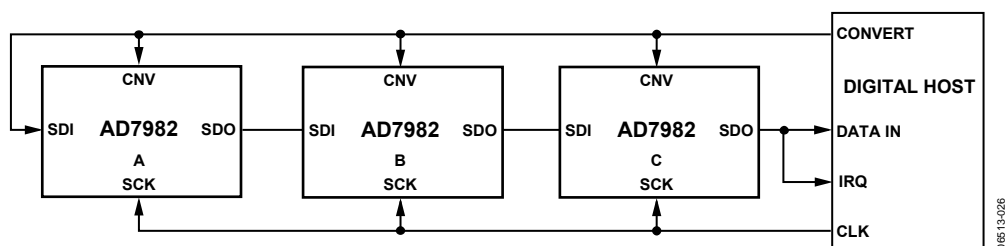
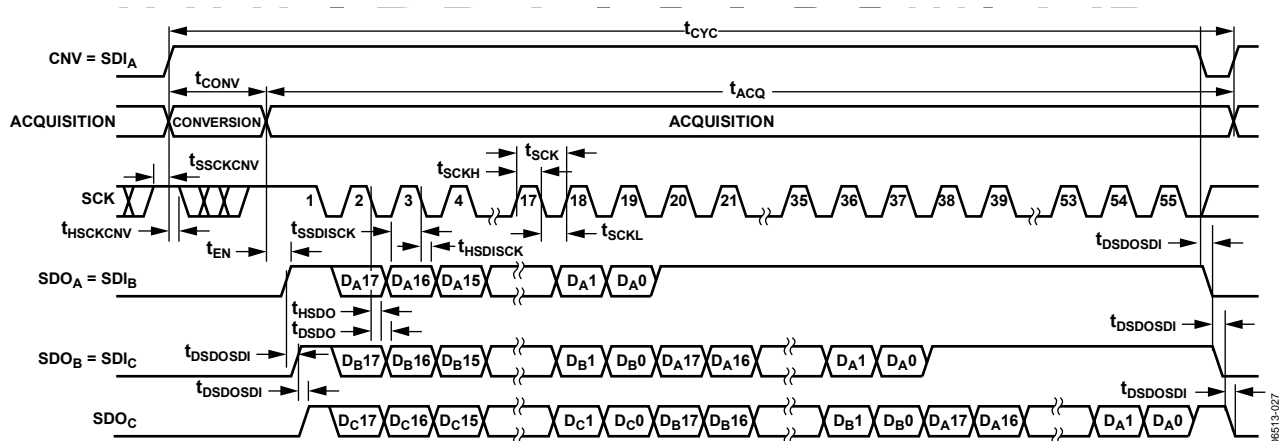

Figure 39. Chain Mode with Busy Indicator Connection Diagram
Figure 40. Chain Mode with Busy Indicator Serial Interface Timing
- In the chain mode if SCK is high during the CNV rising edge (see Figure 40).
A connection diagram example using three AD7982s is shown in Figure 39, and the corresponding timing is given in Figure 40.
subsequent data readback. When all ADCs in the chain have completed their conversions, the SDO pin of the ADC closest to the digital host (see the AD7982 ADC labeled C in Figure 39) is driven high. This transition on SDO can be used as a busy indicator to trigger the data readback controlled by the digital host. The AD7982 then enters the acquisition phase and powers down. The data bits stored in the internal shift register are clocked out, MSB first, by subsequent SCK falling edges. For each ADC, SDI feeds the input of the internal shift register and is clocked by the SCK falling edge. Each ADC in the chain outputs its data MSB first, and $18 \times N + 1$ clocks are required to read back the N ADCs. Although the rising edge can be used to capture the data, a digital host using the SCK falling edge allows a faster reading rate and consequently more AD7982s in the chain, provided the digital host has an acceptable hold time.